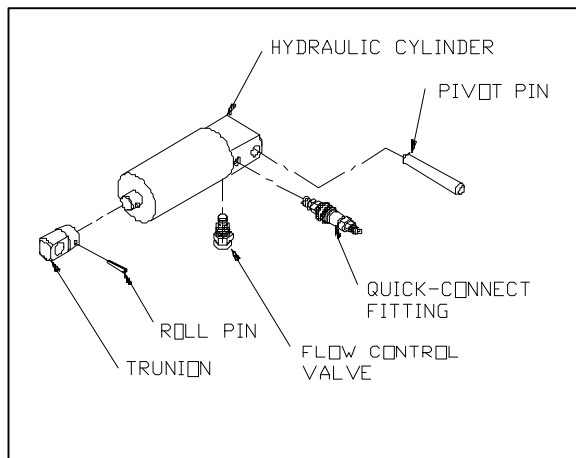

FIGURE 4-13: HYDRAULIC CYLINDER
- c. Refer to **Figure 4-13**. Remove the 0.25" diameter rollpin fastening the trunnion to the end of the hydraulic cylinder rod by driving the pin out with a small drift and a hammer.